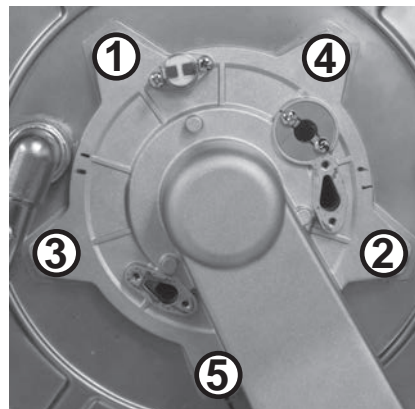

Figure 114 - Remove burner door hex nuts
16 Locate the five (5) hex nuts securing the burner door assembly to the heat exchanger as shown in Figure 114. Use a 10 mm hex socket to remove hex nuts. Place hex nuts aside in a safe location for reinstallation.
NOTICE: Star pattern in Figure 114 above **MUST** be followed during reinstallation of screws to burner door assembly.
29 Install burner door assembly over bolts in heat exchanger. Locate the five (5) hex nuts previously removed in **Step 16**. Hand tighten the hex nuts, then use a 10 mm hex socket to tighten each nut in a star pattern as indicated by the numbers (1-5) adjacent to the bolt holes. Torque hex nuts to 7.4 ft-lbs. (10 Nm). See Figure 114 as reference.